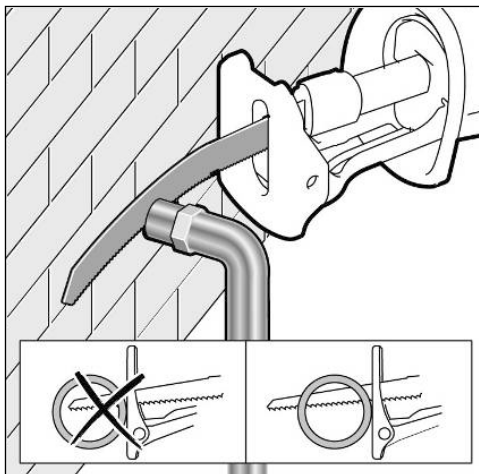

Fig. 8
- To adjust, move the lever (8) in the direction of the arrow and then pull or push on the sole plate to move the mechanism.
7.5 Flush Cutting – Fig.8